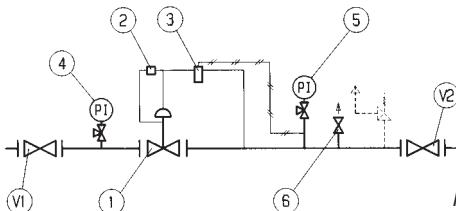

Fig. 20
5.3 MESSA IN SERVIZIO DEL REGOLATORE (FIG. 20)
5.3 COMMISSIONING THE REGULATOR (FIG. 20)
5.3 INBETRIEBNAHME DES REGLERS (FIG. 20)
5.3 MISE EN SERVICE DU DÉTENDEUR (FIG. 20)
5.3 PUESTA EN SERVICIO DEL REGULADOR (FIG. 20)
5.3 ACTIVAÇÃO DO REGULADOR (FIG. 20)